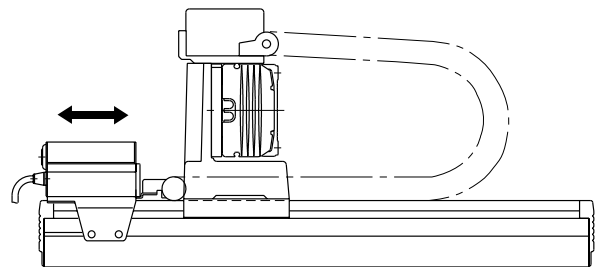

Fig. 9-2
- 2) Loosen the small screws (M5, 4 screws) fixing the X-axis wiring box. The wiring box can be slid along the T slot when these screws are loosened. (Refer to Fig. 9-2.)